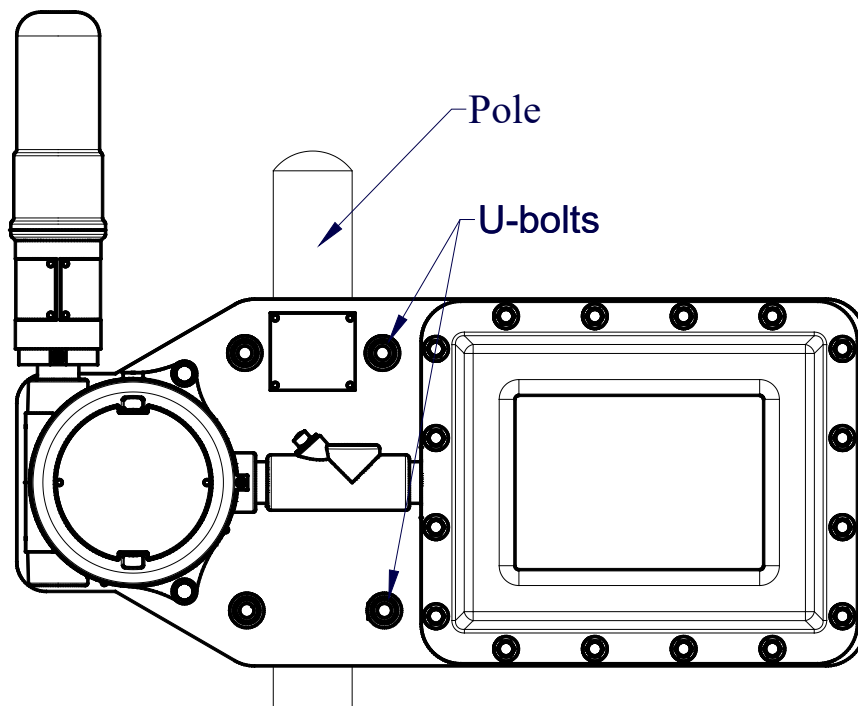

Figure 23 Typical NEMA7 with Transceiver
1. Attach the mounting plate assembly to a pole with two U-Bolts secured through the 7/16" rectangle holes of the mounting plate base (Figure 23).